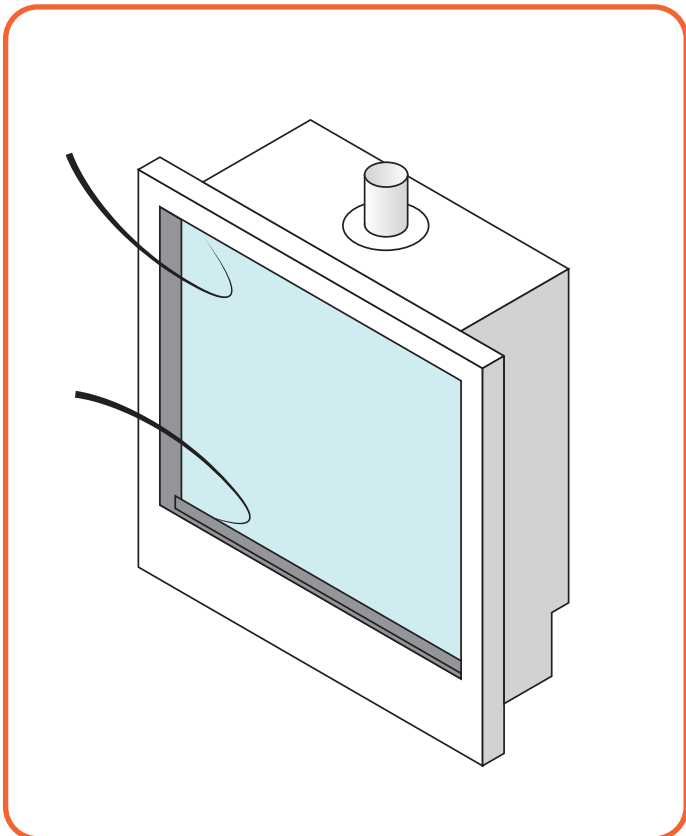

Figure 10.4 - Remove window ropes
- Remove the ropes holding the window in place. (See *Figure 10.4*)